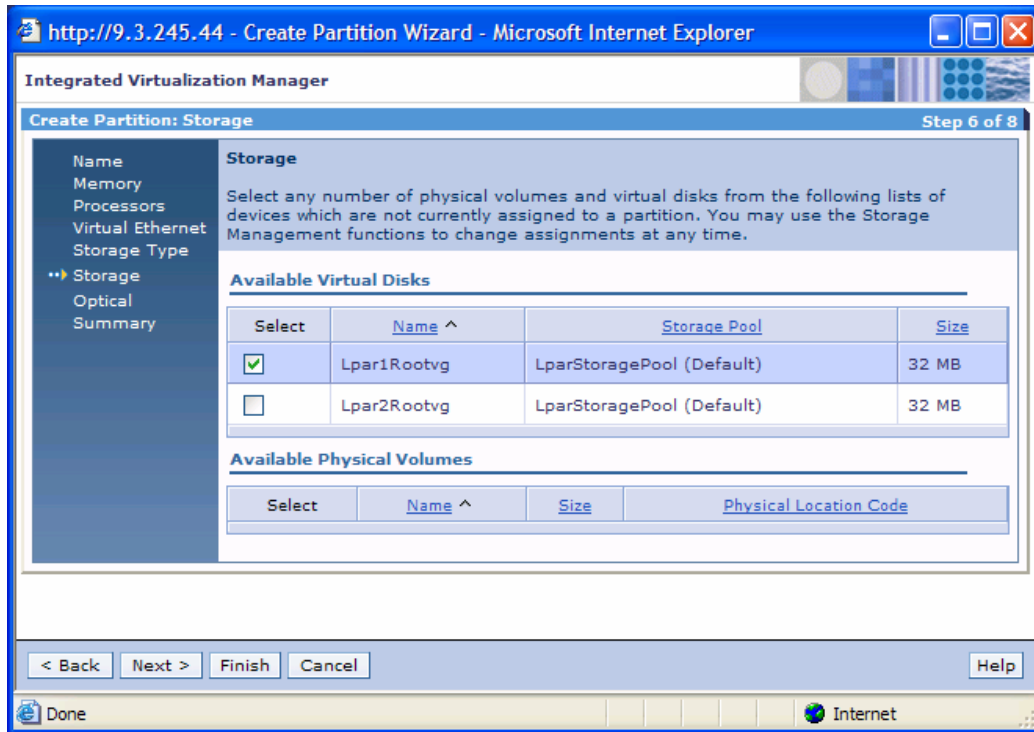

Figure 54. Selecting Lpar1Rootvg as the logical volume
8. Select **Lpar1Rootvg** as the logical volume (see Figure 54). Click **Next**.